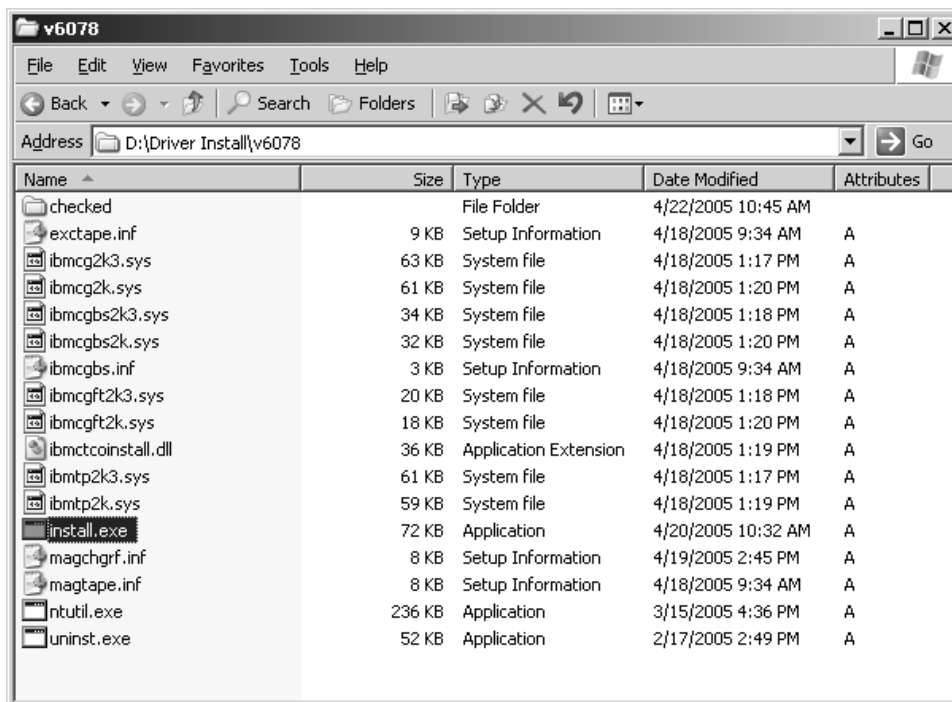

Figure 42. Installation Application in Windows Explorer
1. Open Windows Explorer and locate the directory into which you unzipped the driver files, for example, d:\Driver Install. See Figure 42 on page 252.